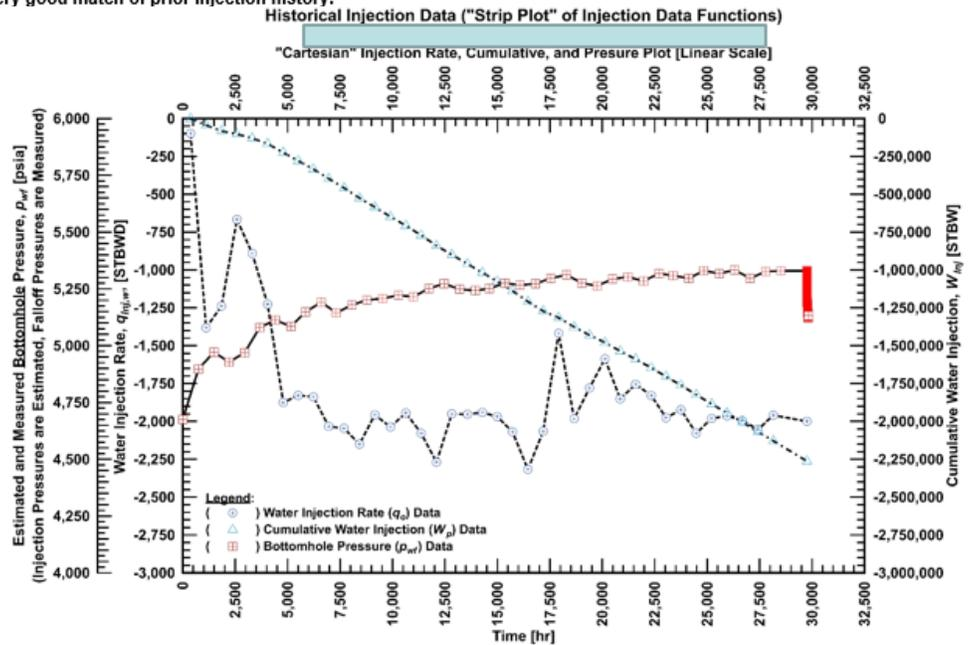

Figure 1 — "Strip Plot" of Injection Rates, Cumulatives, and Pressures (includes PFO test data).
- Review injection rate and estimated bottomhole pressure history (Fig. 1).
- From Fig. 1, erratic injection rates, roughly correlate with features in the pressure profile.
A horizontal well in Oklahoma can only sustain production from gas lift. Water production loads the well very quickly. An array Production log was run on coil while nitrogen was continually pumped to keep well flowing during logging. The completion is shown in Figure 1.
A disposal well with a 4.5” uncemented slotted liner from 10631’ to 12051’ is being evaluated for vertical conformity of injection (see **Figure 1**). The well is shut in in the morning. A shut in logging pass is made later in the day, then the pumps are shut on to establish a 3.7 barrels water per minute stable rate. A production log is then run with two up and down passes at different speeds, along with stationary measurements to evaluate injection.
Well Schematic—Fig. 1